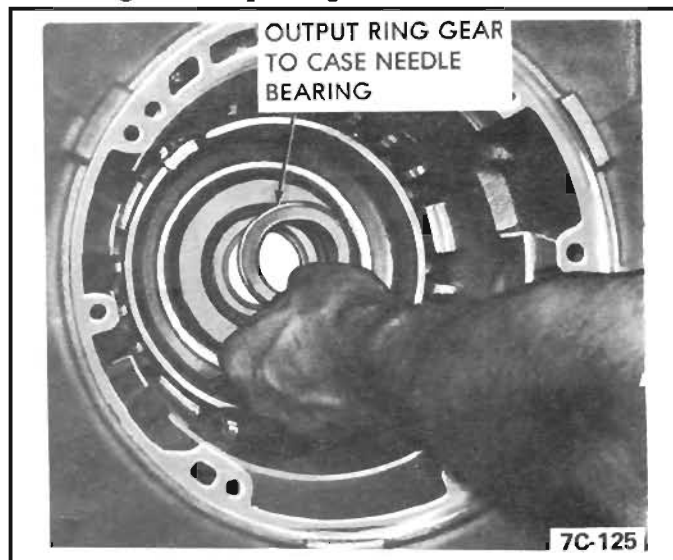

Figure 40 Needle Bearing Removal
4. Remove output ring gear to case needle bearing. See Figure 40.